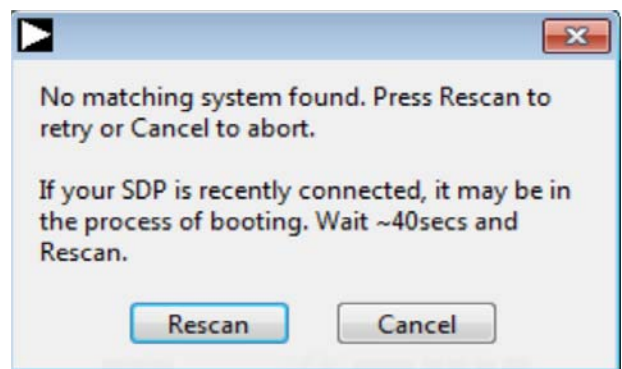

Figure 18. Connectivity Error Alert 2
- c. Wait for a few seconds and then click **Rescan** (see Figure 18).